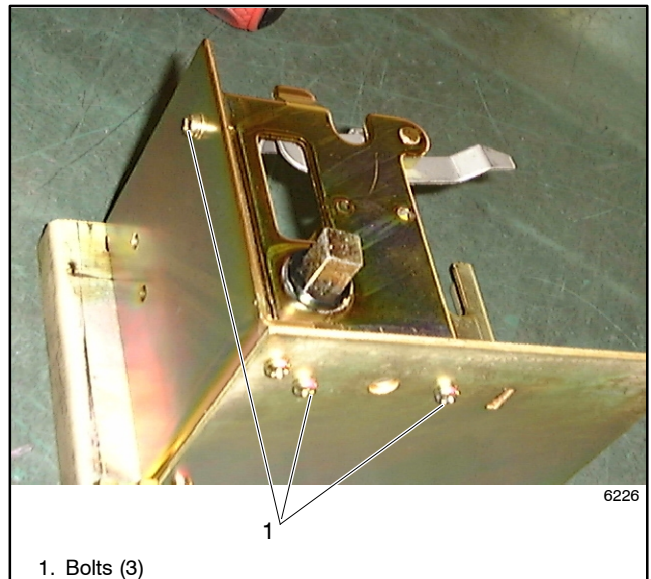

Figure 8-27 Side Plate Bolts
5. Loosen three bolts shown in Figure 8-27, remove the side plate, and replace the trip coil. See Figure 8-27.